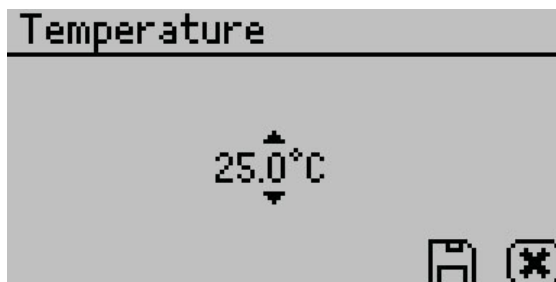

Figure 28 Temperature option
- **Temperature.** Select to set the AQUALAB TDL to the desired temperature using UP and DOWN. When finished, select SAVE (Figure 28).